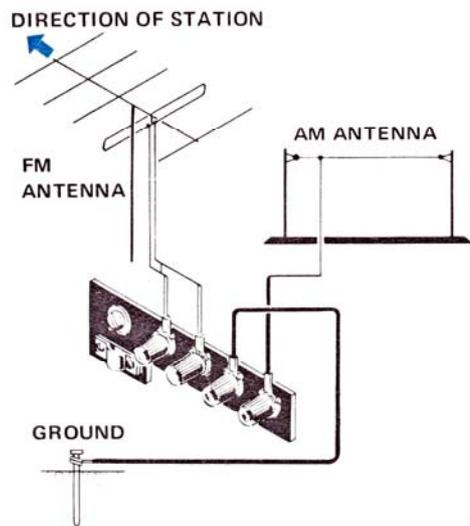

Fig. 6
- If orientation of the T-type antenna does not eliminate background noise, connect an outdoor antenna to the antenna terminals shown in Fig. 6. In lieu of an antenna, a combination FM/TV antenna may be used.
- If the lead antenna does not give satisfying results, erect an outdoor antenna and connect it as shown in Fig. 6. Special construction is not required: vinyl-insulated wire may be stretched between two masts or other supports.